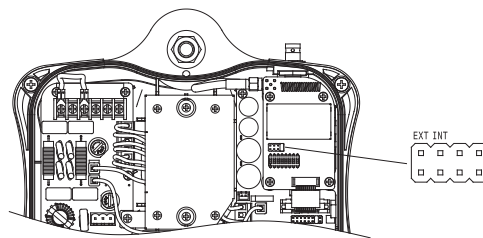

Fig. 29
4. When installing an external antenna, you must connect the SMA jack located inside the receiver and make sure to set the jumper to “EXT” position (*see Fig. 29*).